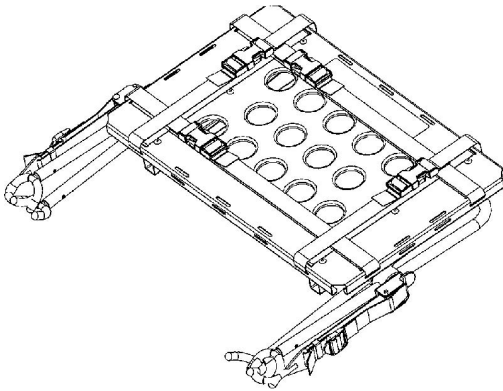

Figure 37 – Stored position
1. Place the defibrillator platform in the stored position (Figure 37).